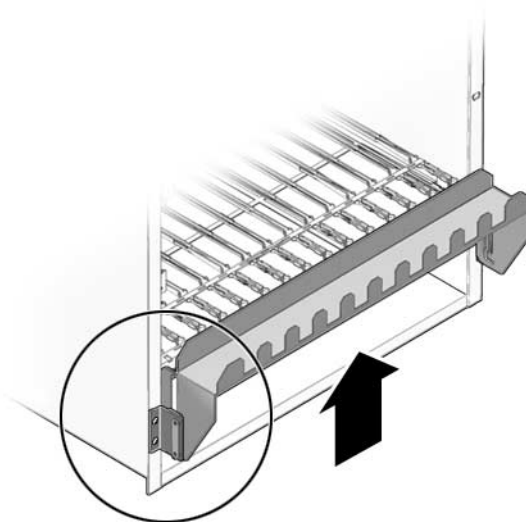

FIGURE 5-8 Front Cable Management Bracket in Upper Position
1. Move the front cable management bracket to the upper position (FIGURE 5-8).
3. Move the front cable management bracket back down to the lower position, if necessary (FIGURE 5-8).